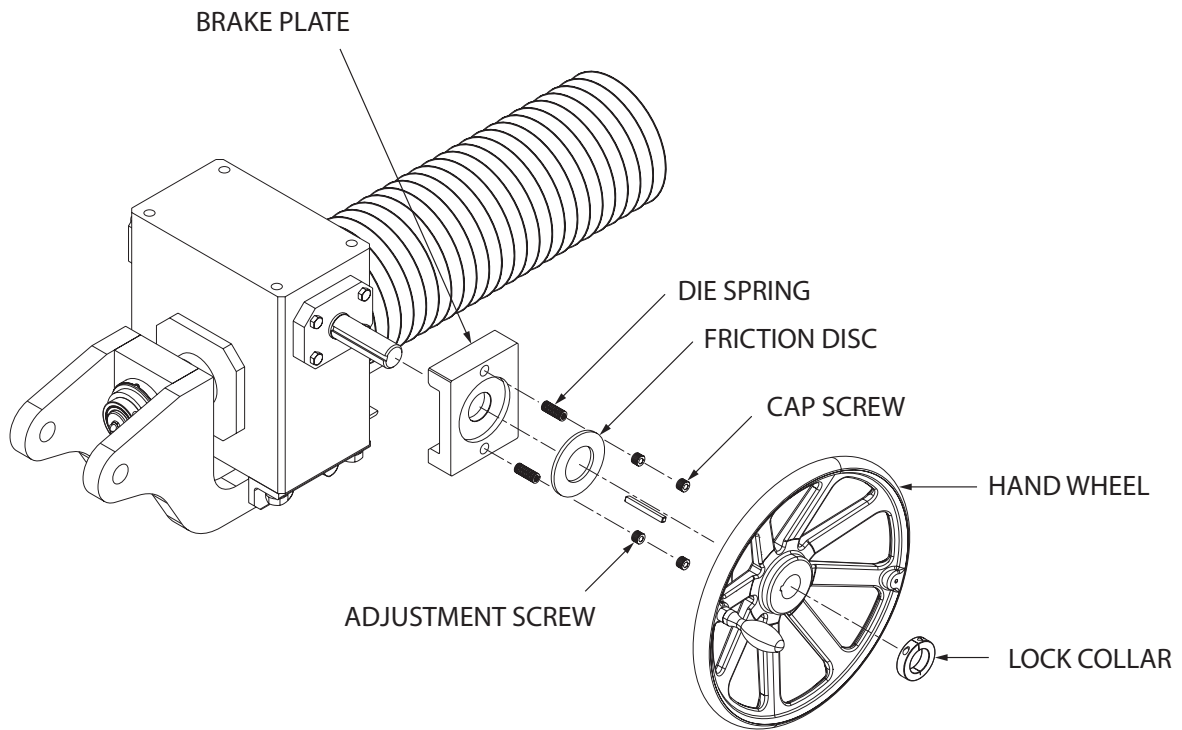

Figure 4.5-1 AGSE-E16626-S01 Cradle Jack Assembly
The inspection and maintenance of the roll operation friction disc clutch (Figure 4.5-1), should be made before each use. All four (4) securing pins (IPB Fig. 1 - Item 17) of the cradle should be installed to prevent cradle rotation. Install wood blocks at the free end of the jack screw tube brace to maintain the jack current position. Then free the jack screw nut assembly to travel by removing the two (2) connecting pins (IPB Fig. 2 - Item 41 and 42, Figure 8.2-2). Rotate the jack screw hand wheel one (1) to two (2) turns and note the amount of force required. The force required to overcome the friction clutch and turn the hand wheel should be approximately 10 to 15 lbs. (45 to 67 N). Inspection and adjustment of the friction clutch assembly is required if there is little or no resistance felt when the hand wheel is rotated.